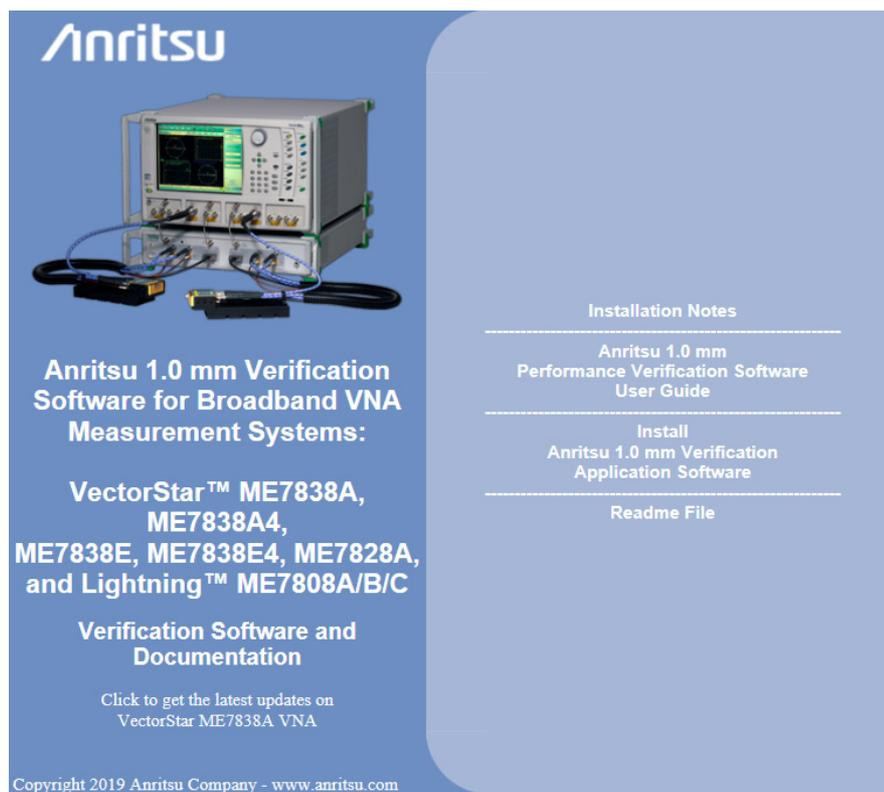

Figure 6-1. PVS Installation and Documentation Screen
11. The installer adds all required files and makes the necessary registry updates on the PC Controller. When done, the navigation page (Figure 6-1) reappears.